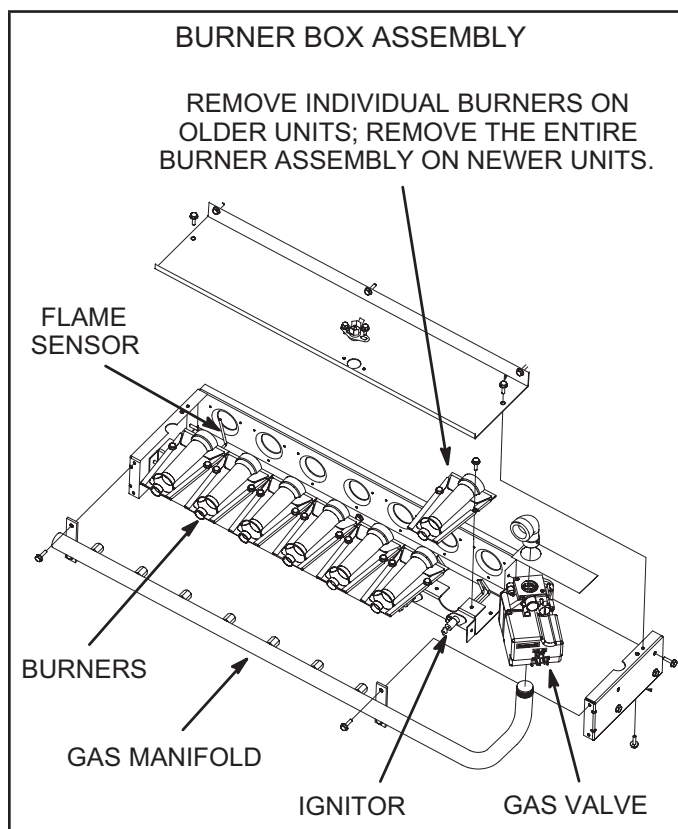

FIGURE 29
- 4 - Remove screws securing burners to burner support and lift the individual burners or the entire burner assembly from the orifices. See FIGURE 29. Clean as necessary.